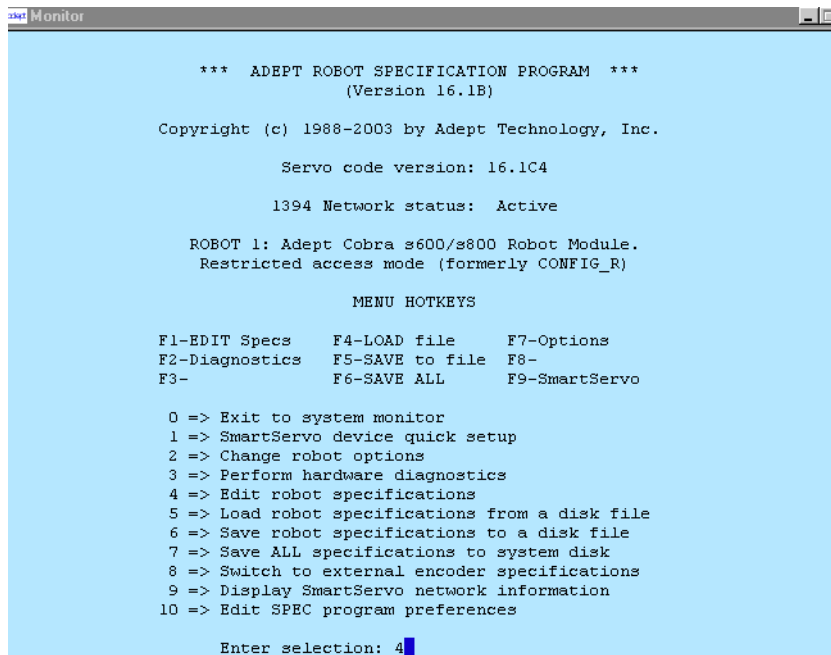

Figure 6-15. SPEC Program Main Menu
1. Load and run the SPEC.V2 program. The main screen appears as shown in Figure 6-15.
1. Load and run the SPEC.V2 program. The main screen appears as shown in Figure 6-15 on page 86.